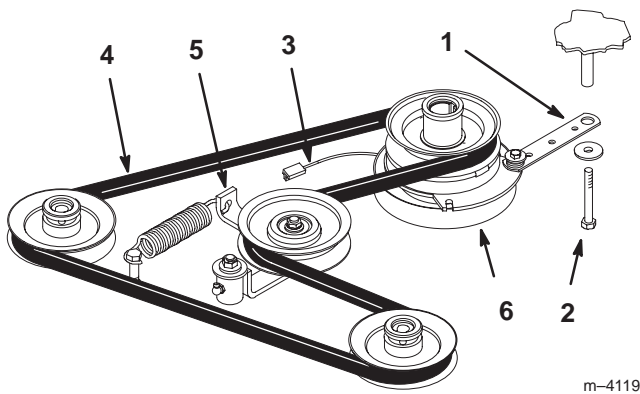

Figure 46
2. Remove bolt from clutch strap and unplug clutch electrical wire (Fig. 46).
3. Pull spring loaded idler to side. Remove traction belt from the engine and hydro pump pulleys (Fig. 46).
4. Install new belt around engine and hydro pump pulleys (Fig. 46).
5. Pull spring loaded idler to side and align belt. Release pressure on spring loaded idler (Fig. 46).